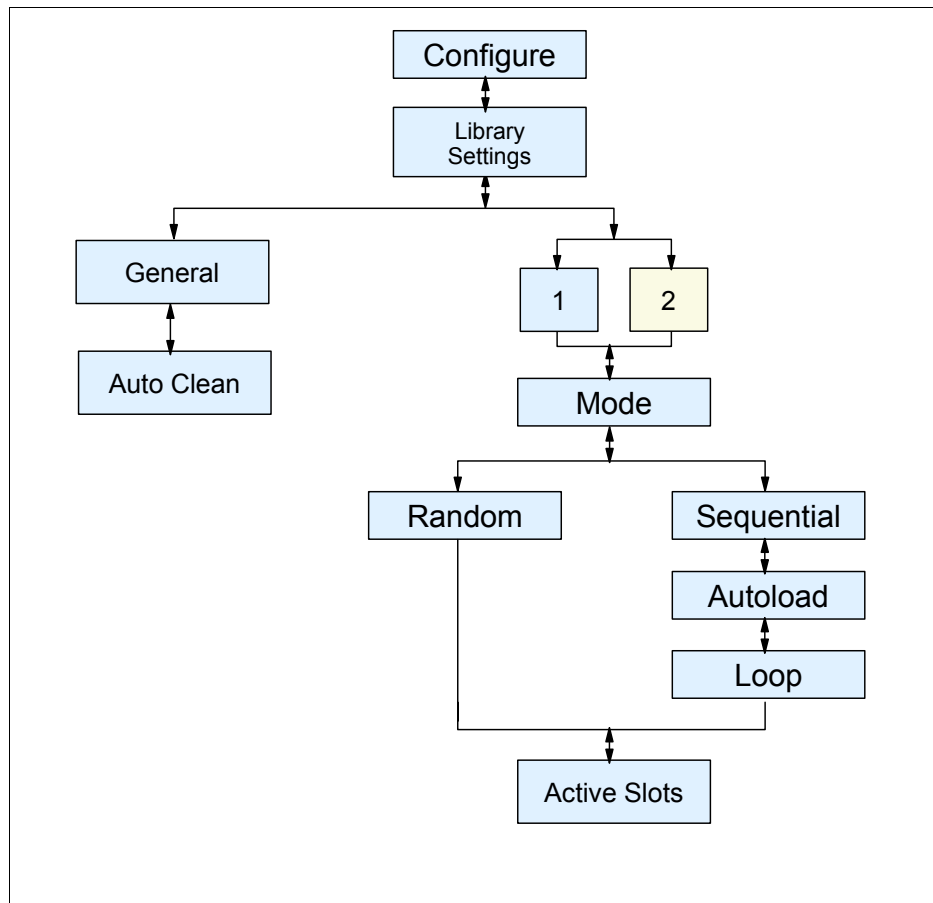

Figure 9-11 Library Mode menu for the IBM TS3200 Tape Library
Figure 9-11 on page 230 shows the Library Mode menu and the process flow for configuring the TS3200 with two logical libraries.
- In *Sequential* mode, the library's firmware predefines the selection of the cartridges. After initialization, the firmware causes the library to select the first available cartridge found (counting from 1) for loading into the drive. In Figure 9-11, you find the tree structure of the Library mode menu.